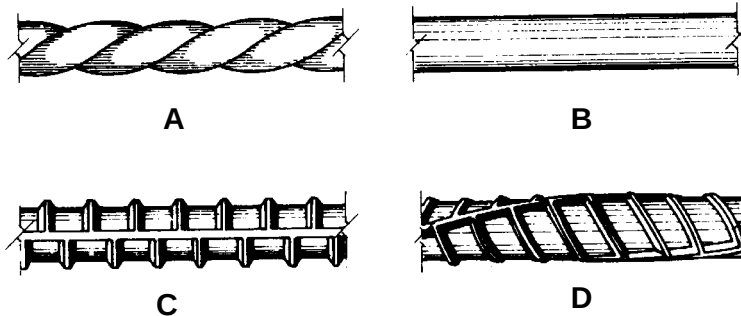

FIGURE 2.4 (4)
2.4 Identify the reinforcement bars labelled A – D in FIGURE 2.4.